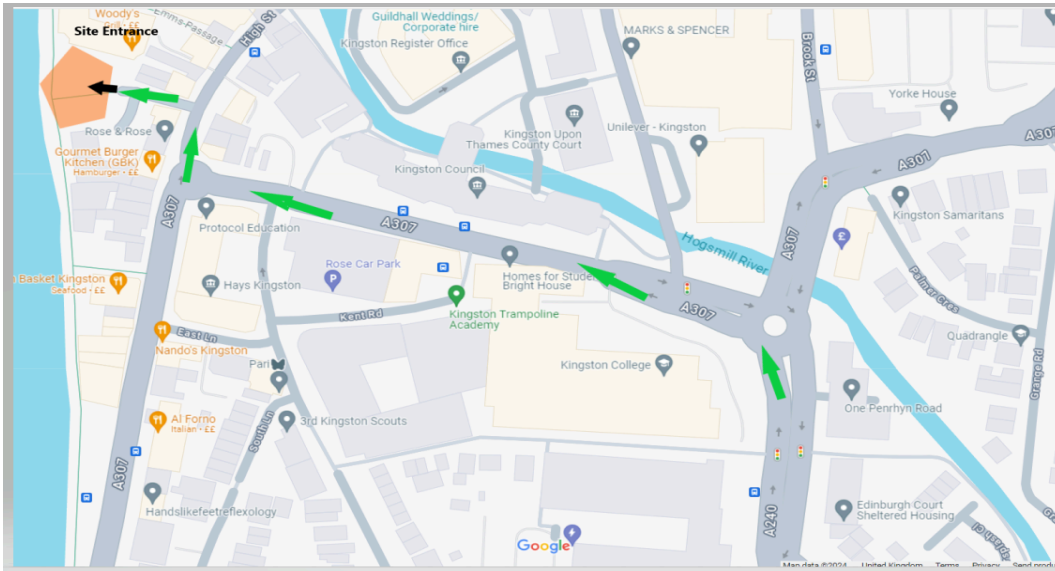

Figure 6.1 Proposed route to site.
9.1. Deliveries will enter and exit the site using the access on Ram Passages Road using the routes highlighted in Figures 6.1 & 6.2, the Deliveries will be Marshalled onsite where appropriate.